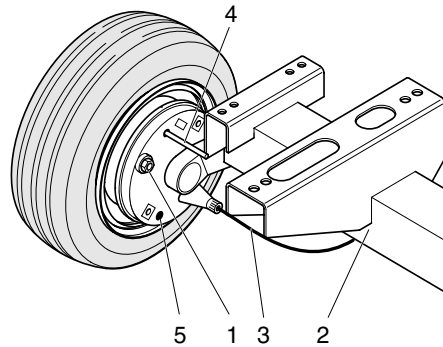

Fig. 5.5 Brake shoe adjustment
Lift and support the compressor. Make sure that all brakes are off (overrunbrake and hand brake lever). The brake cables must be free from tension. Lock the swivel cams of the wheel brake from the outside by means of a pin \varnothing 4 mm (4) through the hole as shown in Fig. 5.5.
Remove locking pin (Fig. 5.5, 4). Remove clearance from brake cables.